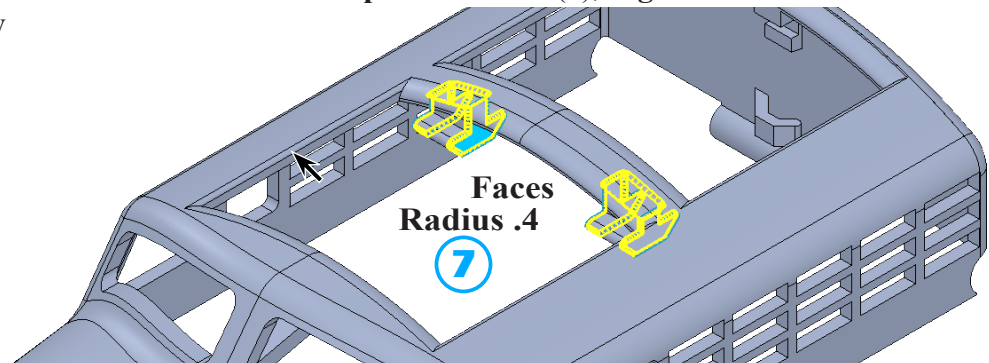

Fig. 150
- ⑦ **Radius**  .4
click side faces of both center solar panel mounts (4), Fig. 150